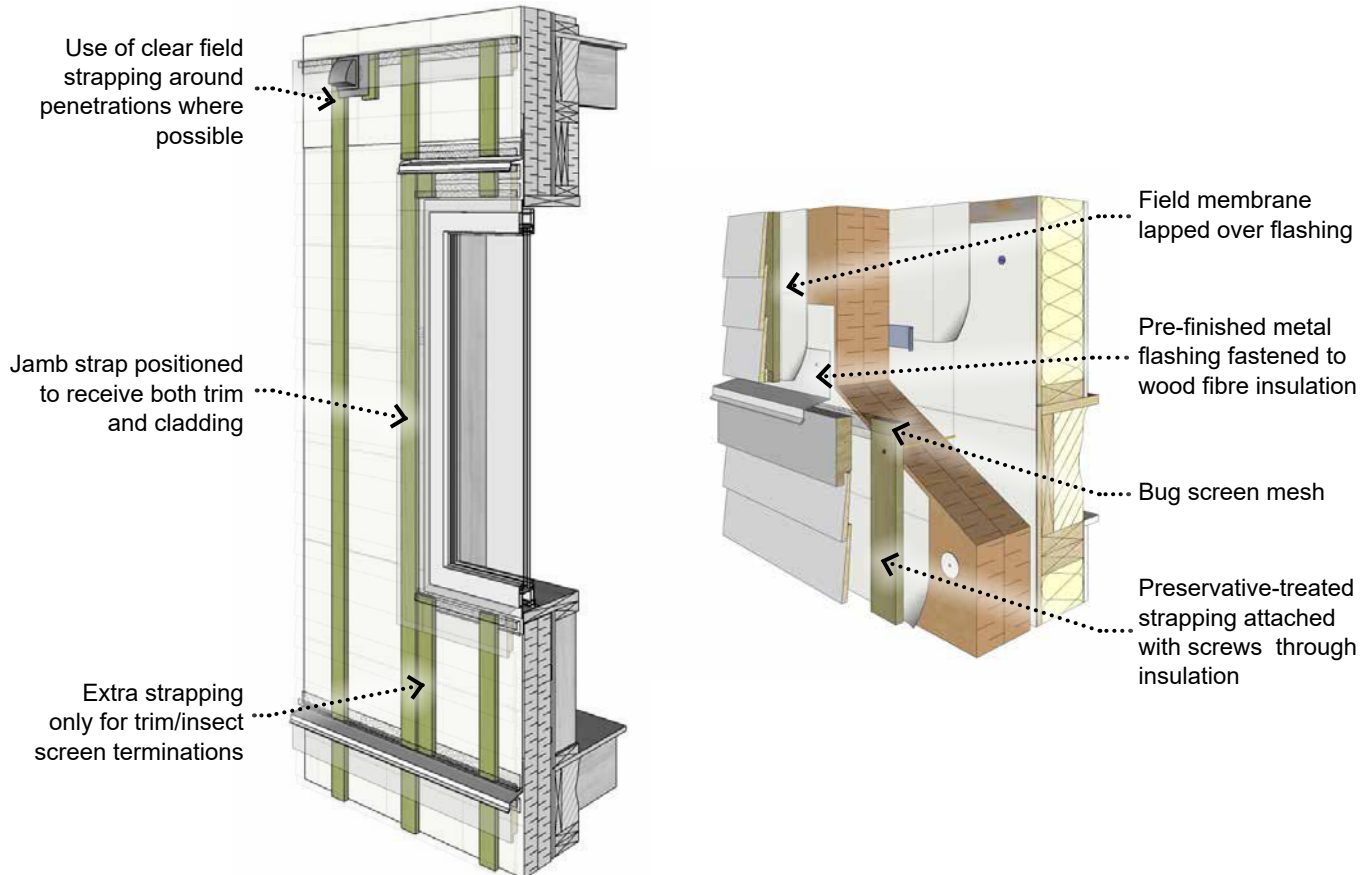

Figure 7 Examples of optimized strapping layout (left) and typical rainscreen detailing at the floor line flashing (right)
- › Using intermittent blocking to receive closure/return trim and flashing running across the thickness of the exterior insulation (see Figure 7 and Typical Construction Details starting on page 28).